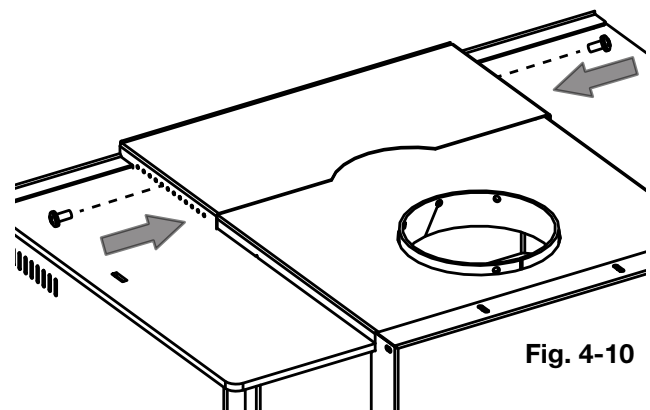

**Fig. 4-8**
- B.** Place the hooks on the backerplate into the slots in the brackets previously installed in step A (**Fig. 4-8**).